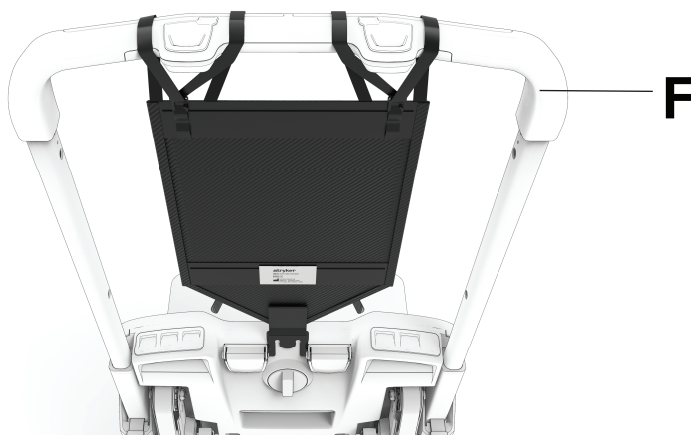

Figure 33 – Installed head support option
5. Adjust the grab bar (F) height so that the patient's head can rest on the head support (Figure 33).